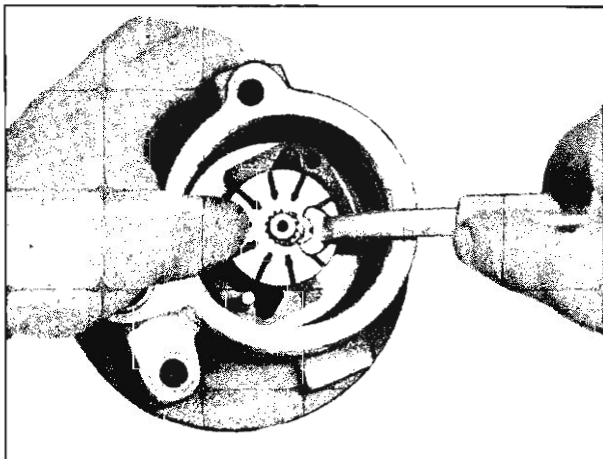

Fig. 70—Installing Shaft Snap Ring
4. Using suitable tool, install shaft retaining ring (fig. 70).